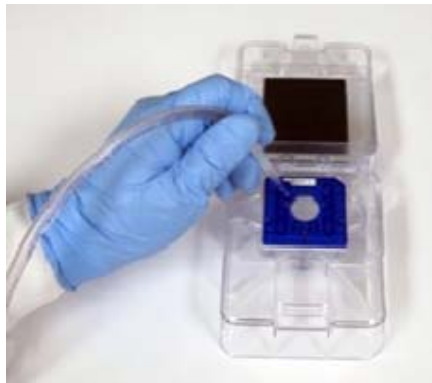

Figure 1. Using a vacuum to aspirate the chip wells is more effective than using a pipette.
- 2 Use a pipette tip attached to a vacuum line to thoroughly aspirate all fluid from the chip wells (see Figure 1). For more details on how to set up a vacuum line see page 33.